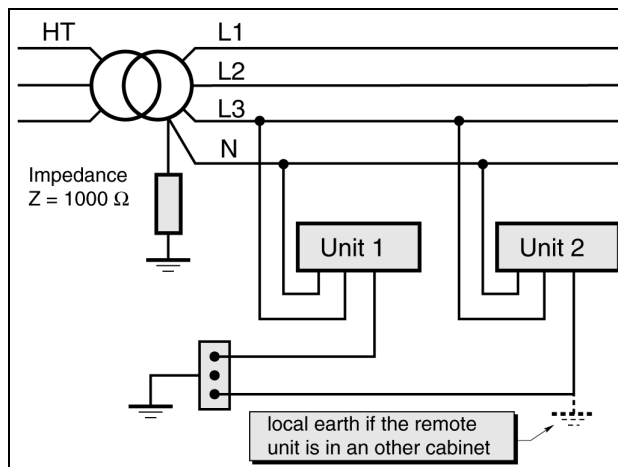

Figure 4-11 : Power supply I-T
- I-T neutral: The neutral is isolated in relation to the earth and the metallic parts are earthed (see Figure 4-11).